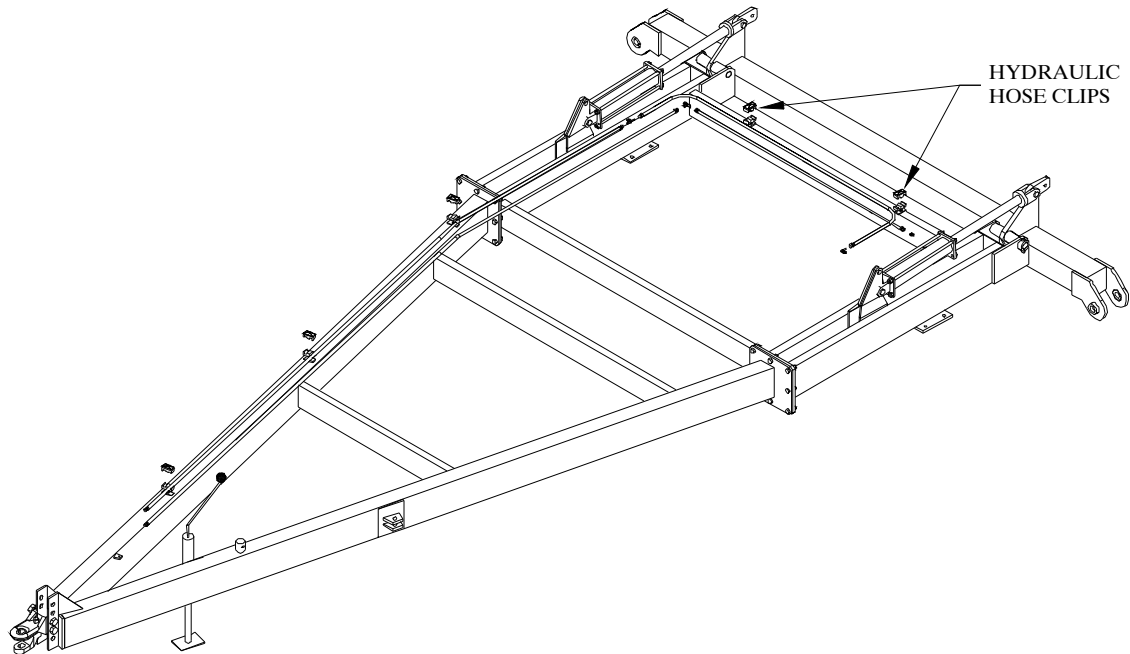

**Figure 5**
1. Attach the center bar to the square frame. Refer to Figure 5. Use the 1 1/2" x 11 1/16" hinge pins, 1/2" x 3" grade 8 bolts, and locking hex nuts.